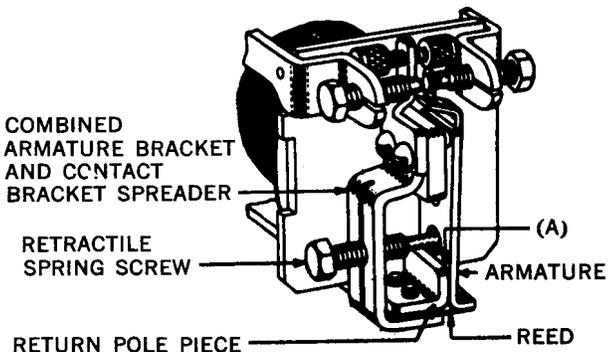

Fig. 3 - Relay Equipped with Reed-type Armature
2.12 Base Gap (Readjust Only): Fig. 3(A) and 5(A) - The gap between the armature and return pole piece, measured at the closest point, shall be